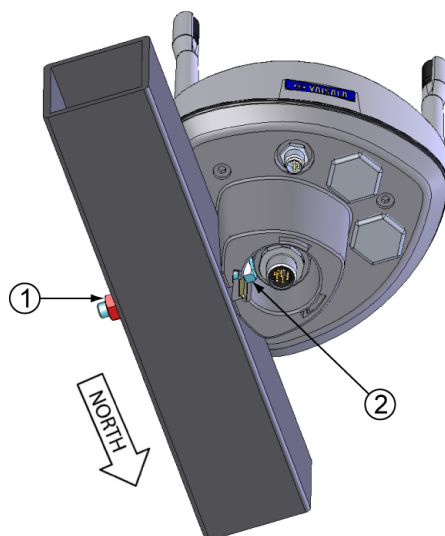
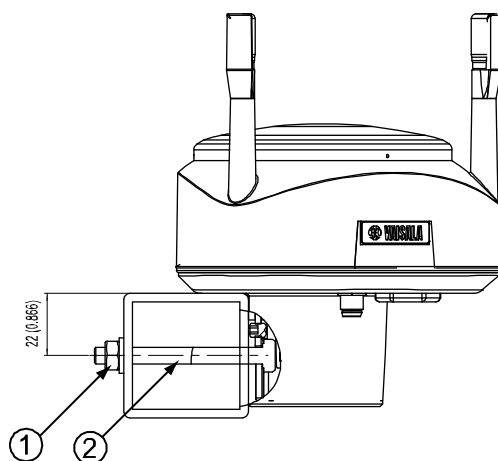

Figure 13 Mounting WMT52 to Cross Arm
Figure 14 Mounting Bolt Location in Cross Arm
3. Mount the sensor into the cross arm by using a mounting bolt (M6 DIN933) and a nut, see Figure 13 on page 33 and Figure 14 on page 33.
The following numbers refer to Figure 14 on page 33: